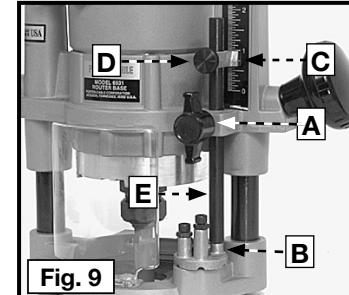
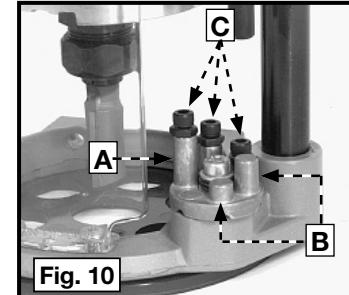

Fig. 9
Fig. 10
1. Loosen the depth rod locking knob (A) Fig. 9, and the depth indicator knob (D), allowing the depth rod (E) to contact one of the turret stops (B). Normally the deepest desired cut is set with the depth rod resting on the shortest turret stop (A) Fig. 10. The other two fixed stops (B) Fig. 10 provide reduced cutting depths of 1/4" and 1/2" respectively. You can adjust the three stops (C) Fig. 10 to any desired height. You can utilize any combination of fixed and/or adjustable stops to achieve the desired depths required for a particular job.
2. Release the plunge mechanism by pulling the locking lever (A) Fig. 9 to the left. Lower the plunge mechanism until the router bit touches the work surface. Release the lever and push it to the right to lock the mechanism in this position.
5. Loosen depth-rod locking knob (A) Fig. 9. Raise the indicator until it aligns with the graduation representing the desired depth of plunge. (The example in Fig. 12 shows setting for 1" plunge.)